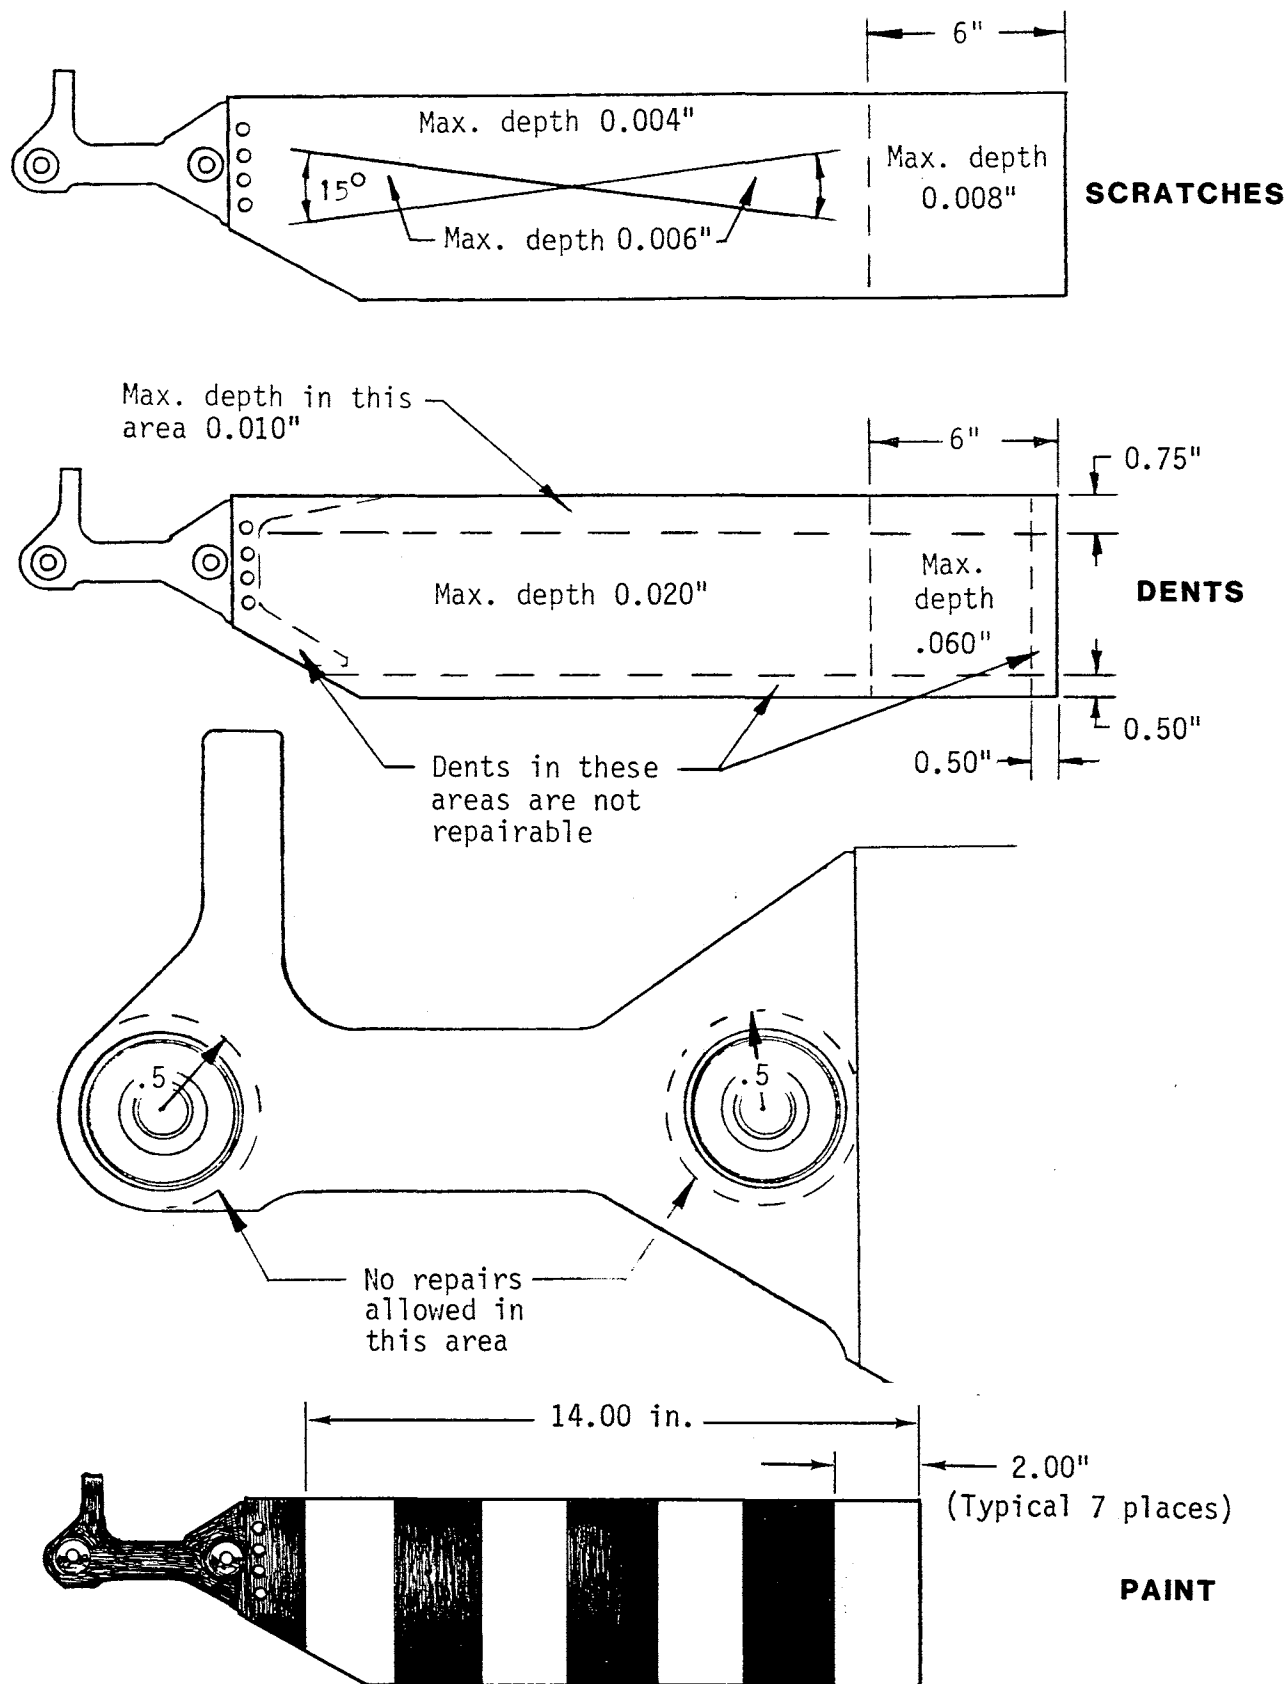

FIGURE 9-14 INSPECTION/REPAIR OF TAIL ROTOR BLADES
- b) Dents on Skins (See Figure 9-14): Smooth, round-bottomed dents which have a .06 inch minimum radius and occur from the leading edge to a point .75 inch aft of the leading edge are limited to .010 inch. Aft of .75 inch from the leading edge dents are acceptable within the following limits:
- g) Painting (See Figure 9-14):